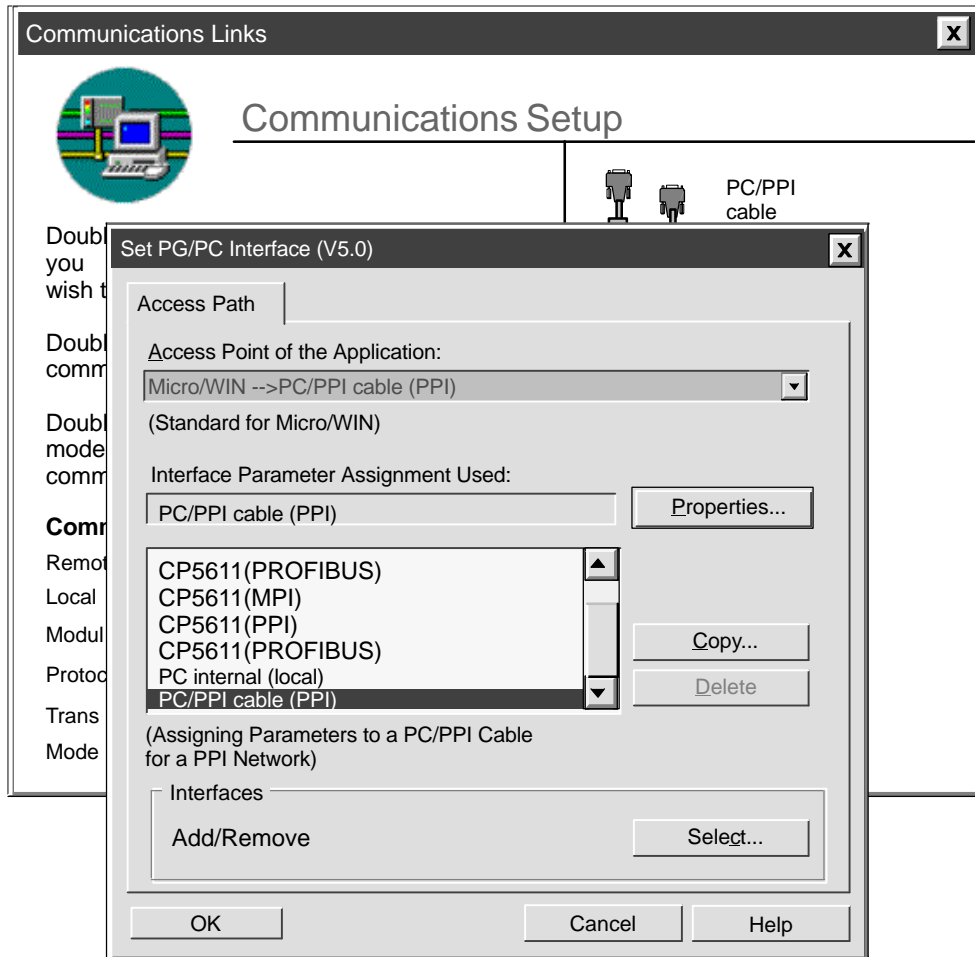

Figure 3-2 Set the PG/PC Interface Dialog Box
2. In the Communications Links dialog box, double-click on the icon for the PC/PPI cable. The Set the PG/PC Interface dialog box appears. See Figure 3-2.